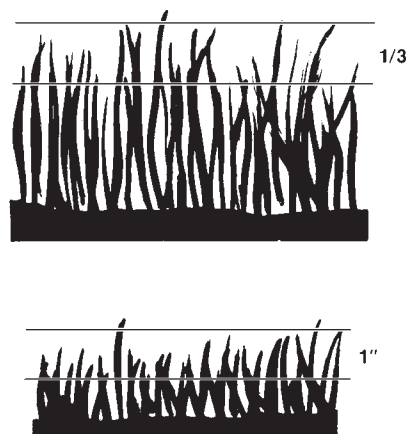
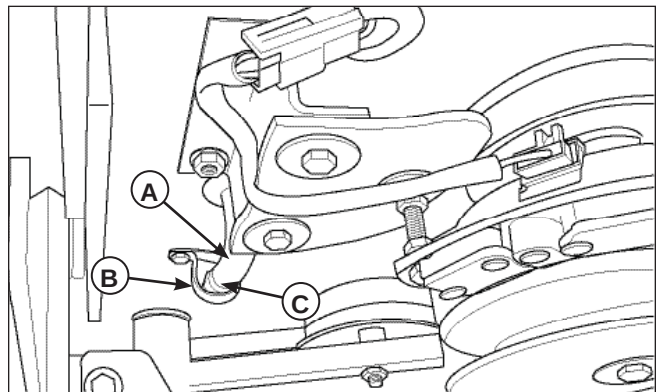

Figure 15. Proper Cutting Height
Figure 18. Engine Oil Drain
2. Remove the oil drain hose (**A**, **Figure 18**) from the cable clamp (**B**) on the right-hand side of the frame and route the hose through hole in the engine deck as shown in **Figure 15**.